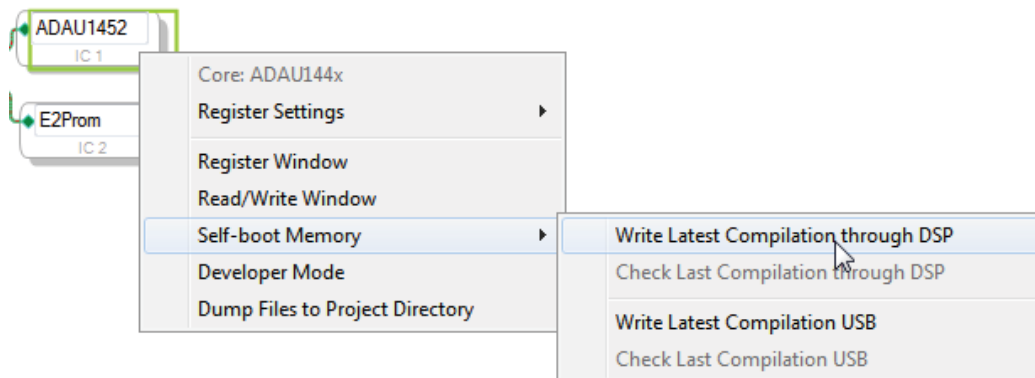

Figure 64. Writing to the EEPROM Through the ADAU1452 Master SPI Port
6. Right-click on the empty white space in the **ADAU1452** IC block in the **Hardware Configuration** tab of SigmaStudio. From the menu that appears, choose **Self-boot Memory > Write Latest Compilation through DSP** (see Figure 64).